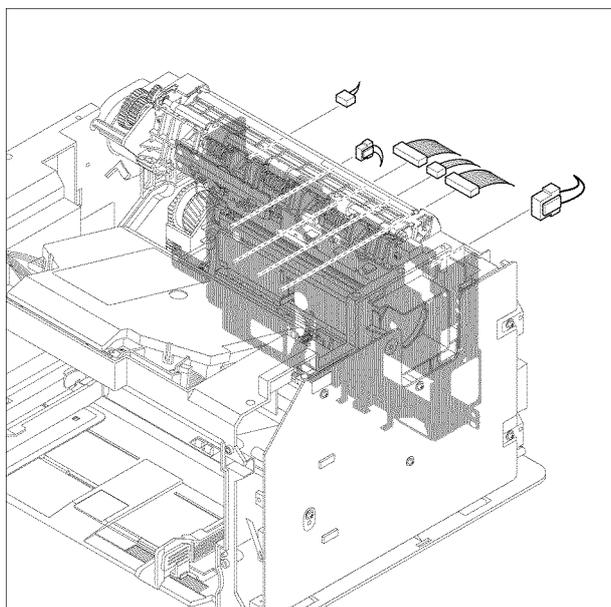

Figure 1
4. Disconnect all connectors from the main PBA and SMPS except CN 18 (Phaser 3124) / CN 11 (Phaser 3125) from the main PBA and CON 2 from the SMPS, Figure 1.